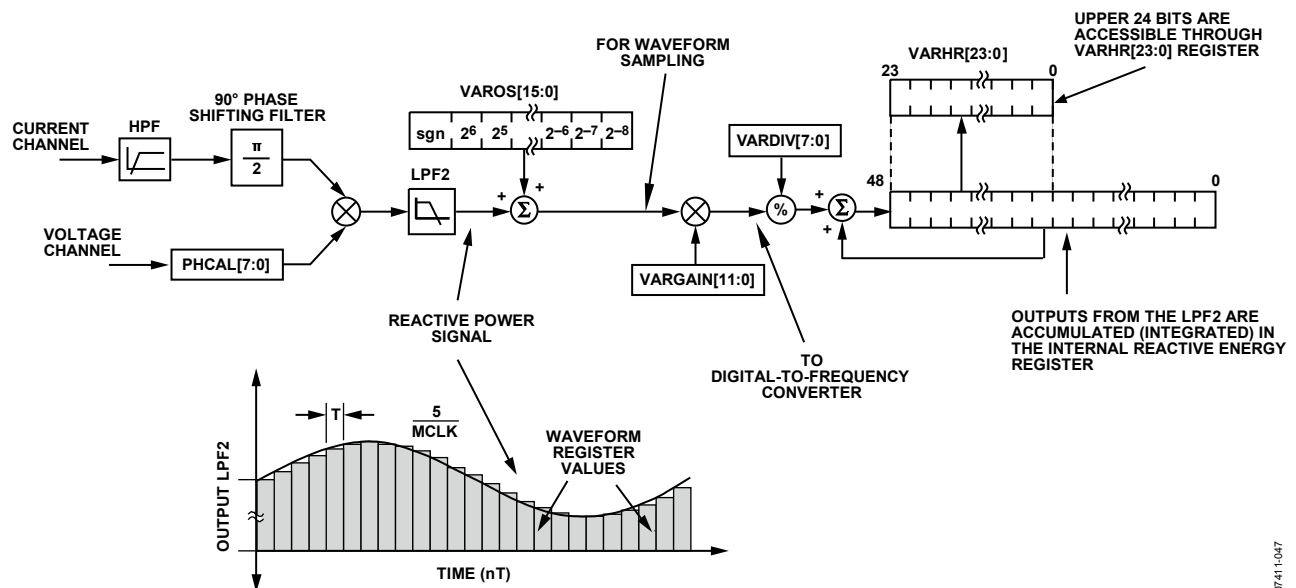

Figure 50. Reactive Energy Calculation
The instantaneous reactive power signal $q(t)$ is generated by multiplying the voltage and current channels. In this case, the phase of the current channel is shifted by 90°. The dc component of the instantaneous reactive power signal is then extracted by a low-pass filter to obtain the reactive power information (see Figure 50).
Figure 50 shows the signal processing chain for the ADE5569/ADE5169 reactive power calculation. As explained in the Reactive Power Calculation for the ADE5569/ADE5169 section, the reactive power is calculated by applying a low-pass filter to the instantaneous reactive power signal. Note that, when reading the waveform samples from the output of LPF2, the gain of the reactive energy can be adjusted by using the multiplier and by writing a twos complement, 12-bit word to the VAR gain register (VARGAIN[11:0]). Equation 23 shows how the gain adjustment is related to the contents of the watt gain register.
The ADE5569/ADE5169 also incorporate a reactive power offset register (VAROS[15:0]). This is a signed, twos complement, 16-bit register that can be used to remove offsets in the reactive power calculation (see Figure 50). An offset can exist in the reactive power calculation due to crosstalk between channels on the PCB or in the IC itself. The offset calibration allows the contents of the reactive power register to be maintained at 0 when no power is being consumed.
The discrete time sample period (T) for the accumulation register in the ADE5569/ADE5169 is $1.22 \mu\text{s}$ (5/MCLK). As well as calculating the energy, this integration removes any sinusoidal components that may be in the active power signal. Figure 50 shows this discrete time integration or accumulation. The reactive power signal in the waveform register is continuously added to the internal reactive energy register.
As shown in Figure 50, the reactive power signal is accumulated in an internal 49-bit signed register. The reactive power signal can be read from the waveform register by setting the WAVMODE register (0x0D) and setting the WFSM bit in the Interrupt Enable 3 SFR (MIRQENH, 0xDB). Like the current and voltage channel waveform sampling modes, the waveform data is available at sample rates of 25.6 kSPS, 12.8 kSPS, 6.4 kSPS, or 3.2 kSPS.